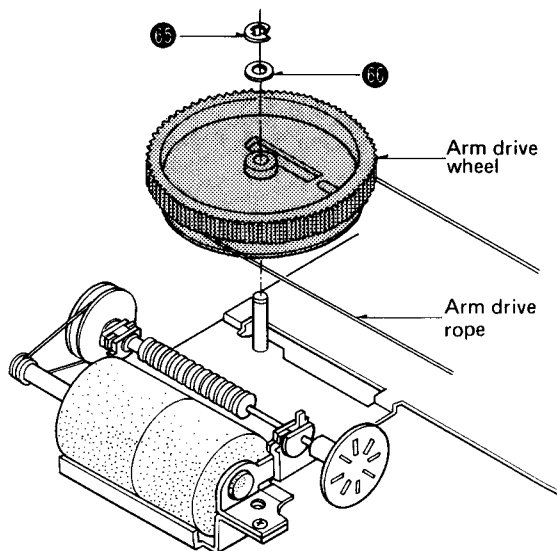

Fig. 14
2. Remove the E-ring **65** and washer **66** to remove the arm drive wheel. (Fig. 14)